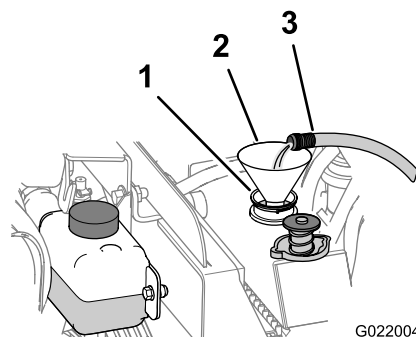

Figure 142
- B. Fill the radiator with clean water (Figure 142).